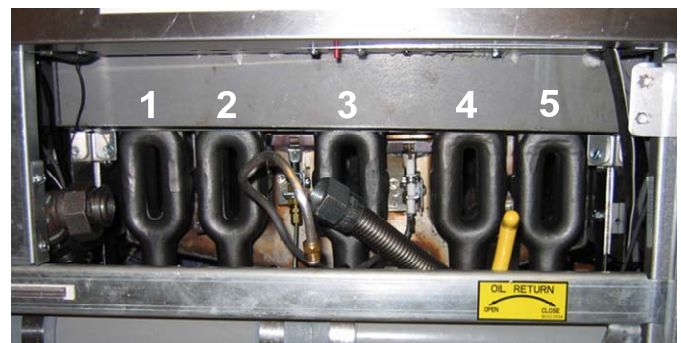

Figure 19: Reinstall the burners in the following order: 1, 2, 3, **5**, 4.
10. Starting at the left, reinstall the burners in the following order (Figure 19):